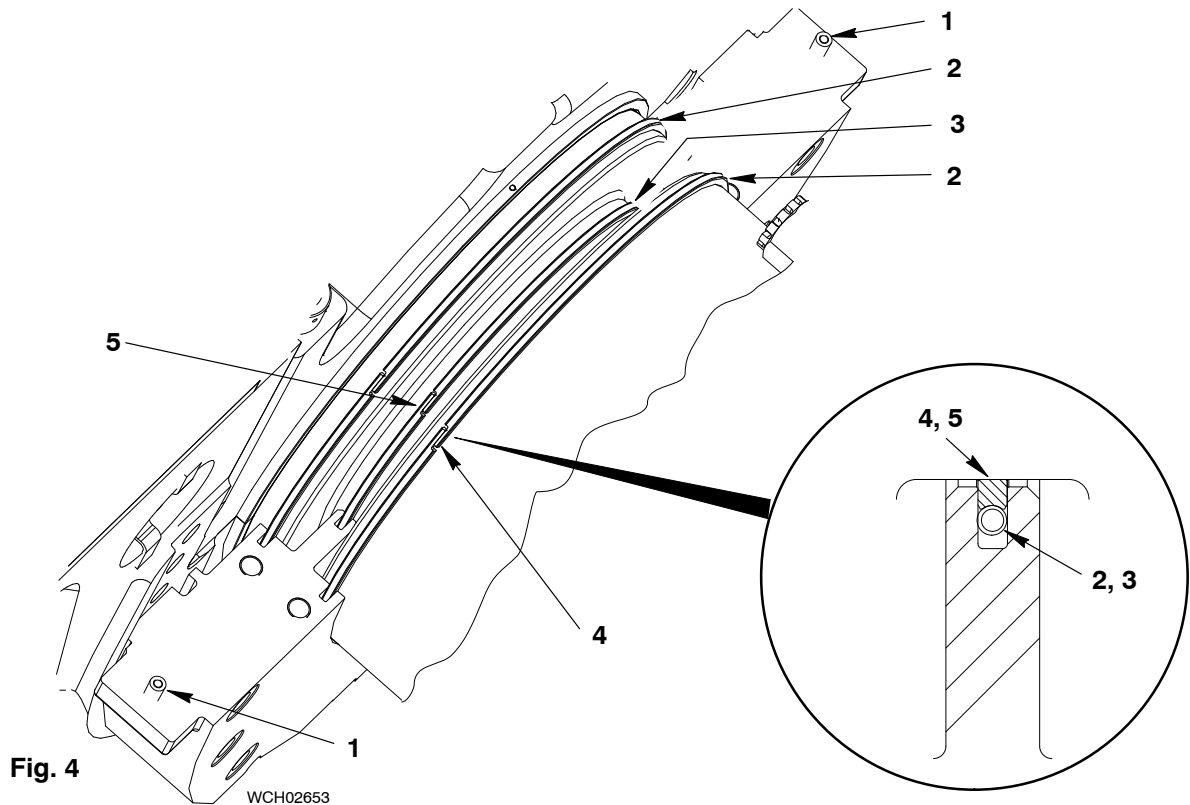

Fig. 4
- 11) Do a check of the two part gaskets (2 and 3, Fig. 4). If the 2-part gaskets have damage or contamination, do step a) and step b).
- 1) Apply clean engine oil to the new 2-part gaskets (2 and 3, Fig. 4).
Note: Use the two taper pins (1, Fig. 4) to help you get the top cylinder in the correct position.